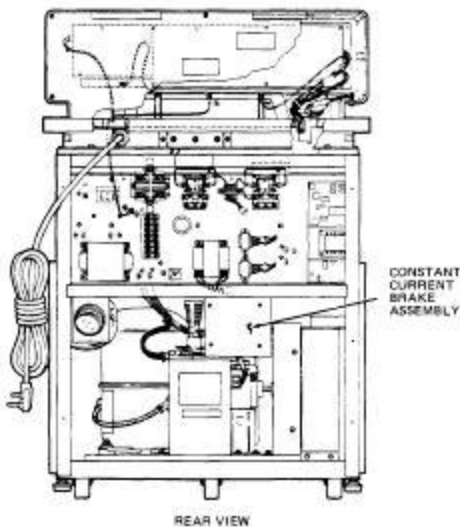

Figure 11-9. Location of Constant Current Brake Assembly
4. Remove constant current brake assembly. Figure 11-9.